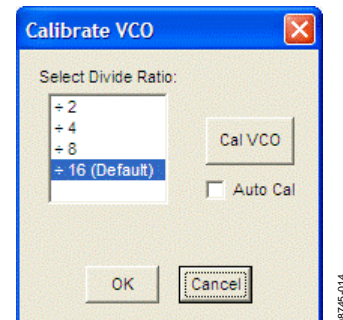

Figure 17. Calibrate VCO Window
14. Click the blinking yellow Cal VCO button to load the VCO calibration window. The default VCO divide ratio (16) works for all applications. Click the Cal VCO button in the Calibrate VCO window to begin calibration (see Figure 17). The PLL should now be locked and the LD (lock detect) LED on the left side of the board should be on.
The Calibrate VCO window shown in Figure 17 is accessed by clicking the Cal VCO button on the main window.